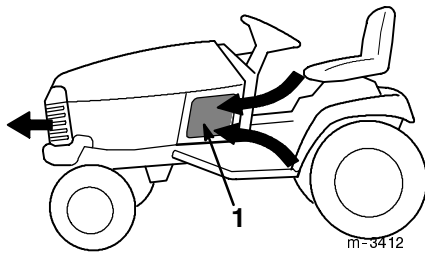

Figure 8
2. Check for debris on the air-intake screens (Fig. 8).